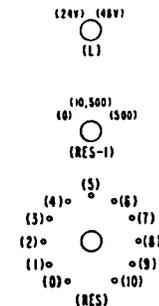

FIGURE 4
5.411 Prepare the ITE-4011 test set with pin jack connections as shown in Figure 4. Connect battery and ground with an ITE-9598 cord to the A jack.
5.413 Connect ITE-9639 cords from "A" terminal strip to T and O jacks as shown in Figure 4.